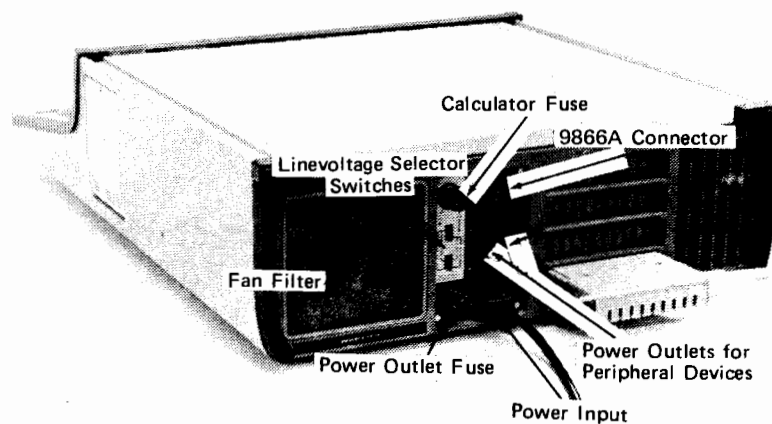
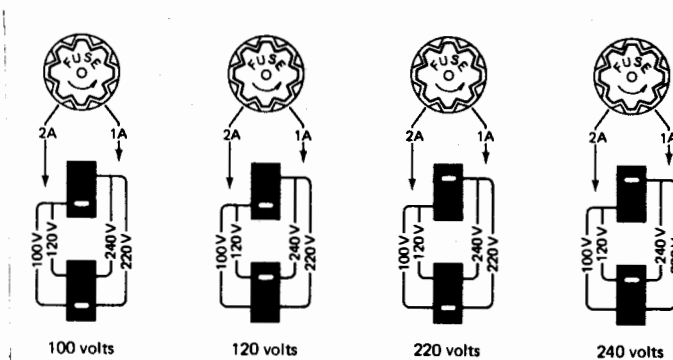

Figure 2-1. The Calculator Rear Panel.
Figure 2-2. Switch Settings for the Various Nominal Powerline Voltages.
Two line-voltage selector switches located on the rear panel of the calculator (see Figure 2-1), when correctly positioned (See Figure 2-2), enable the calculator to be operated on a line voltage of either 100, 120, 220, or 240Vac (+5, -10%). The line frequency must be within a range of 48 Hz to 66 Hz (inclusive). A maximum power of 150 voltamps is required for calculator operation.
3. Switch the two selector switches (located on the rear panel) for the local line voltage. DO NOT SET THE SWITCHES FOR A SEASONAL LOW-LINE CONDITION. Figure 2-2 shows the four possible voltage setting.
The calculator has two fuses located on the rear panel (See Figure 2-1). The convenience outlet fuse is a 6-amp fuse. The calculator fuse is either a 2-amp fuse for 100/120 Vac operation, or a 1-amp for 220/240 Vac operation.